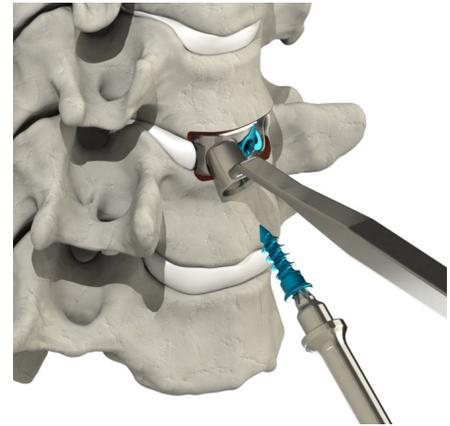

Figure 9.1
- ▲ Insert the Screws using either the Straight Driver or the Angled Driver (Fig. 9.1, 9.2). Both drivers have self-retaining screw heads.